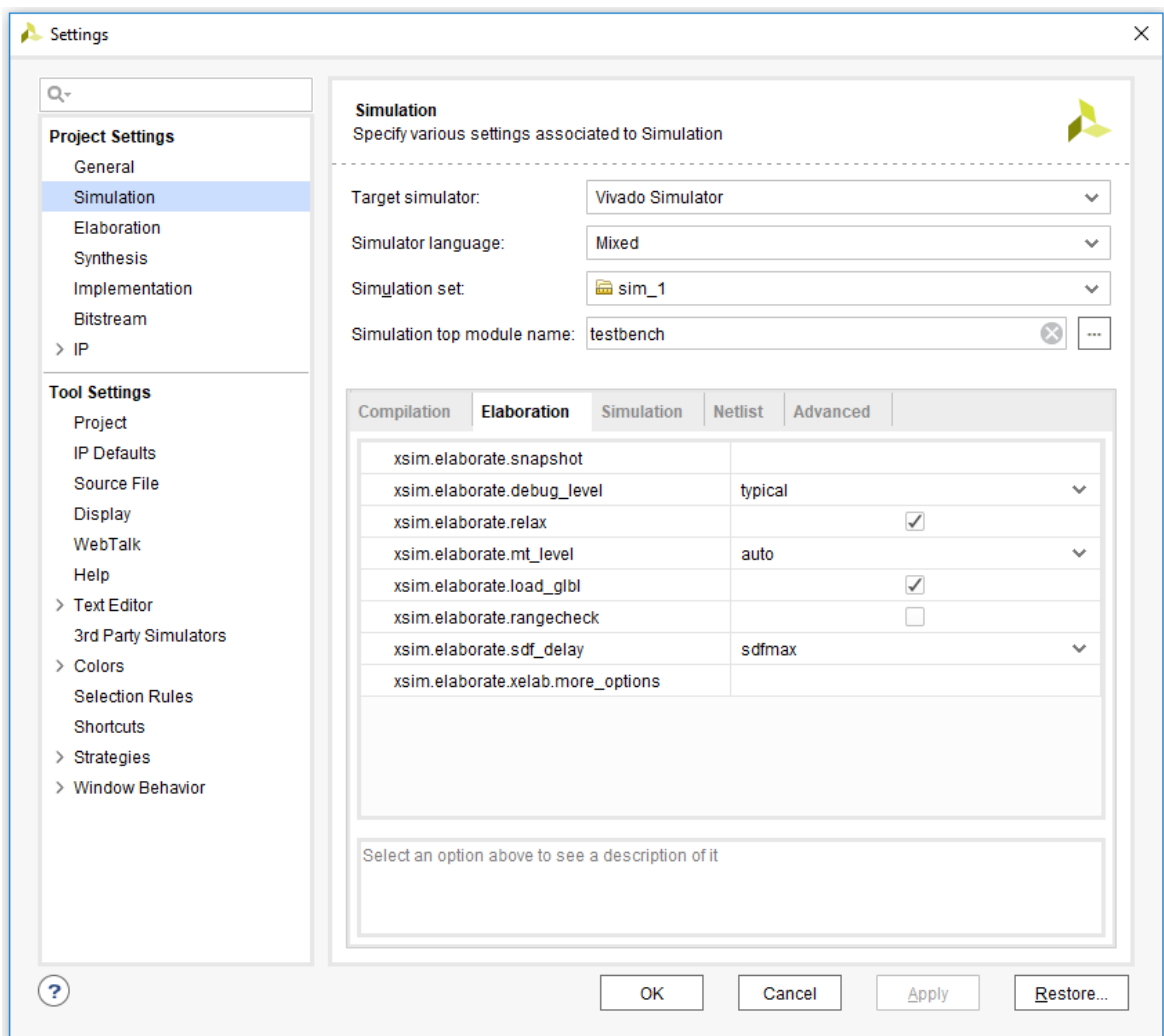

Figure 14: Simulation Settings: Elaboration
- In the **Elaboration** tab (Figure 14), ensure that the debug level is set to **typical**, which is the default value.